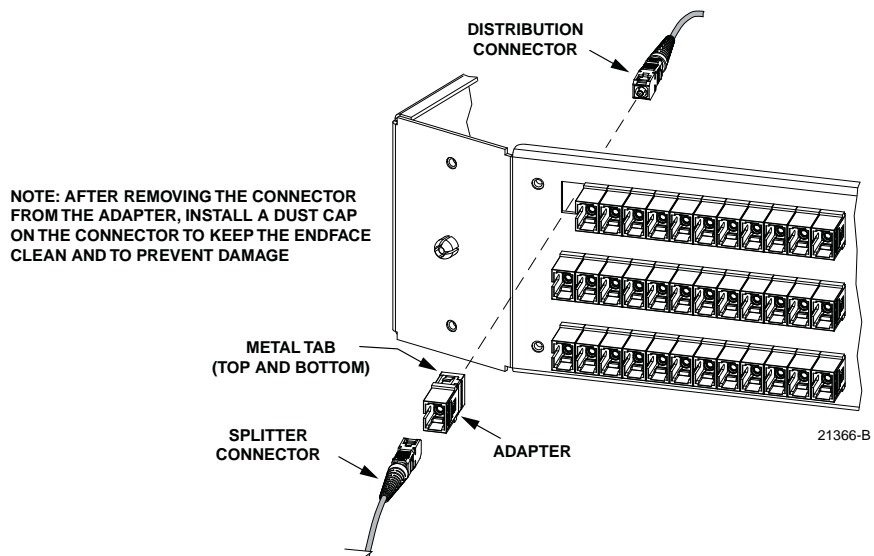

Figure 39. Adapter Removal and Replacement
1. Disconnect the splitter connector from the front side of the broken adapter as shown in Figure 39 and install a dust cap on the connector.